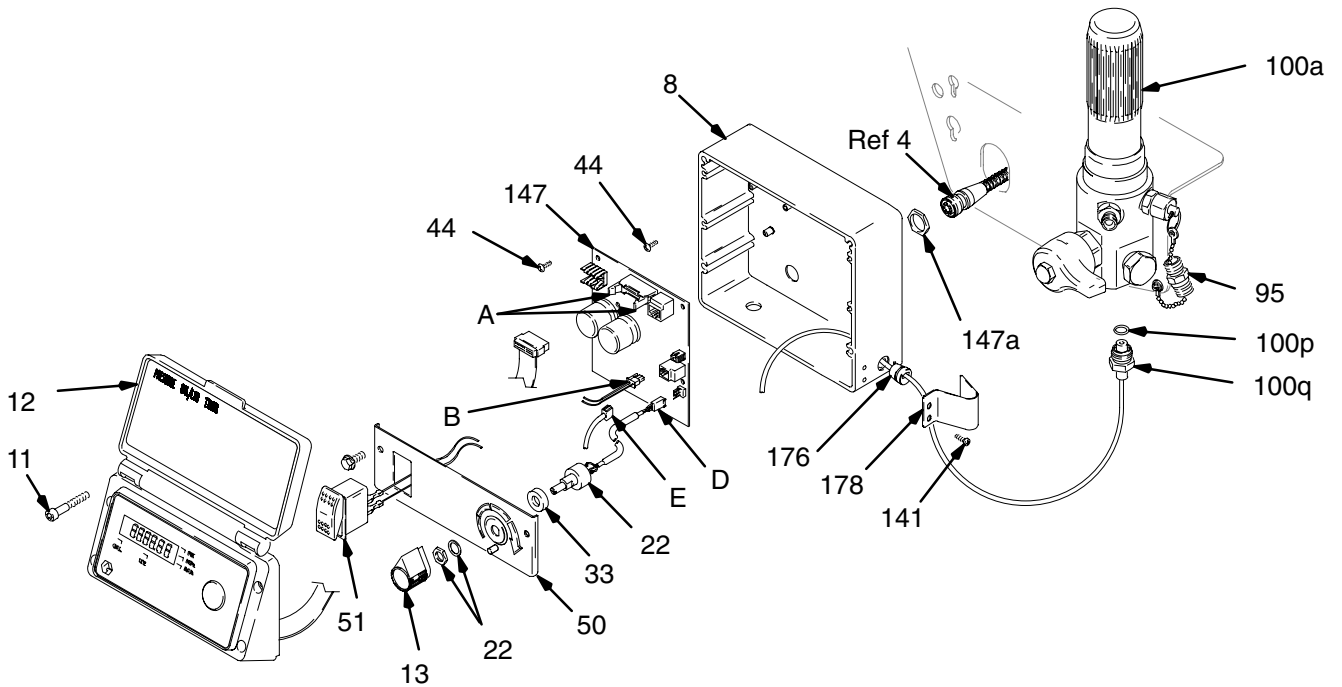

Fig. 10
2. Fig. 10. Remove four screws (11) and display/cover (12).
3. Pull display connector wings (A) open on PC board and pull display connector out.
4. Disconnect ON/OFF switch connector (B) from PC board.
5. Press in on two retaining tabs on each side of ON/OFF switch (51) and remove switch.
- Fig. 10. Remove four screws (11) and display/cover (12). Pull display connector wings open on PC board and pull display connector out.
- Lead (D) from potentiometer.
- Lead (E) from transducer.
- Remove ON/OFF switch (51) at connector (A).
- Fig. 10. Remove six screws (44) from control board (147) and green ground wire.
- Remove connector (Ref 4) at backside of pressure control. Remove jam nut (147a) and control board (147).
- Fig. 10. Install control board (147) and jam nut (147a). Install connector (Ref 4) at backside of pressure control.
- Install green ground wire and control board (147) with six screws (44).
- Connect ON/OFF switch (51) connector (A).
- Lead (E) to transducer.
- Lead (D) to potentiometer.
- Fig. 10. Push display connector into PC board close display connector wings on PC board. Install display/cover (12) with four screws (11).
- Fig. 10. Remove four screws (11) and display/cover (12).
- Disconnect lead (E) from control board (147).
- Remove two screws (141) and transducer guard (178) from control housing (8). Pull transducer connector through rubber grommet (176).
- Fig. 10. Install o-ring (100p) and pressure control transducer (100q) in filter housing (100e). Torque to 30–36 ft-lb.
- Install transducer connector and rubber grommet (176) in control housing (8). Install transducer guard (178) on control housing with two screws (141).
- Connect lead (E) to control board (147).
- Install display/cover (12) with four screws (11).
- Disconnect lead (D) from control board (147).
- Loosen set screws on potentiometer knob (13) and remove knob, shaft nut, lockwasher (22) and pressure adjust potentiometer (22).
- Remove seal (78) from potentiometer (22).
- Install seal (33) on potentiometer (22).
- Fig. 10. Install pressure adjust potentiometer (22), shaft nut, lockwasher (22) and potentiometer knob (13).
- Turn potentiometer shaft (22) clockwise to internal stop. Assemble potentiometer knob (13) to strike pin on plate (50).
- Connect lead (D) to control board (147).